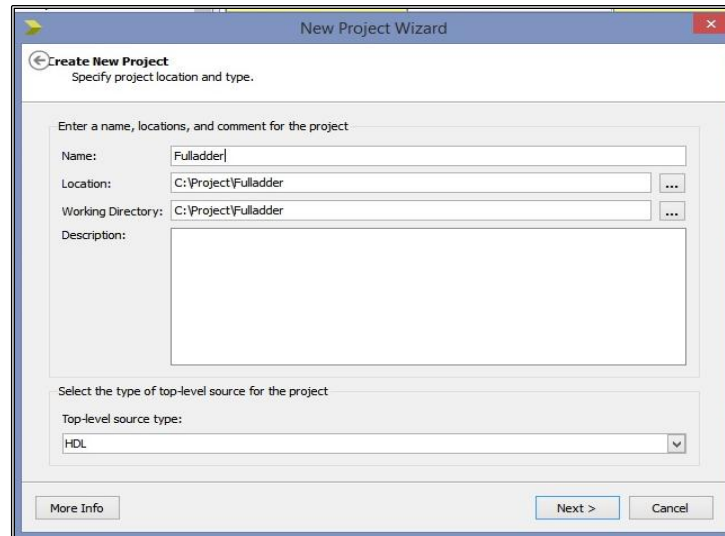

Fig 3.1: New Project
2. From the toolbar, select **File => New Project**. In the **New Project Wizard** window type “Fulladder” in the **Name** field and in the **Location** field, browse C:\Project or choose the directory in which you want to store the project. Select **HDL** as the **Top-Level Source Type** and click **Next** (Fig 3.1).